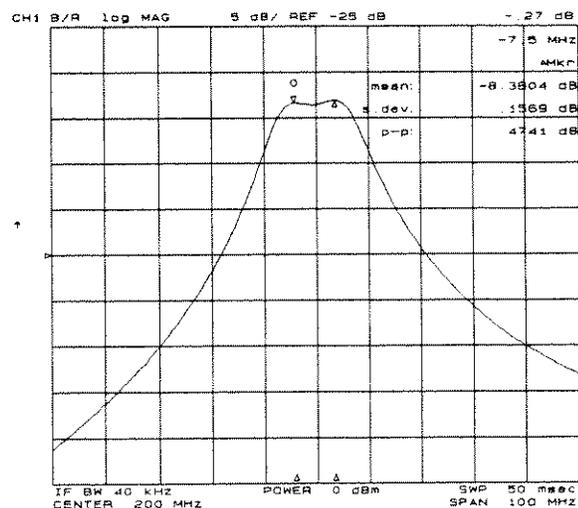

Figure 4-11. Ripple Parameters Readout
**STATISTICS** displays the mean value (mean), the standard deviation (s.dev), and the peak-to-peak value (p-p) of the ripple within the specified range of the active channel. This information is displayed on the upper right of the display (see Figure 4-11). If you did not specify the search range, the analyzer searches within the displayed area.